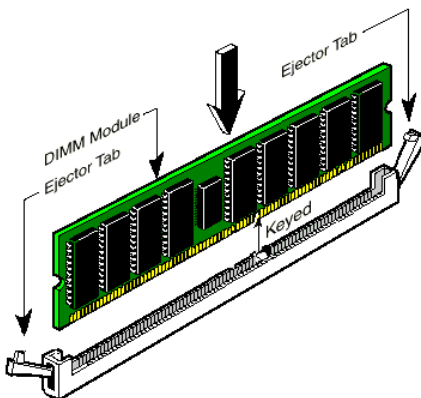

Figure 2-5. DDR DIMM module installation
- Step 5.** Insert the DDR DIMM module into the expansion socket as shown in the illustration. Note how the module is keyed to the socket. You can refer to Figure 2-5 for the details. ***This insures the DDR DIMM module will be plugged into the socket in one way only.*** Firmly press the DDR DIMM module into DDR DIMM socket, making certain the module is completely seated in the DDR DIMM socket.